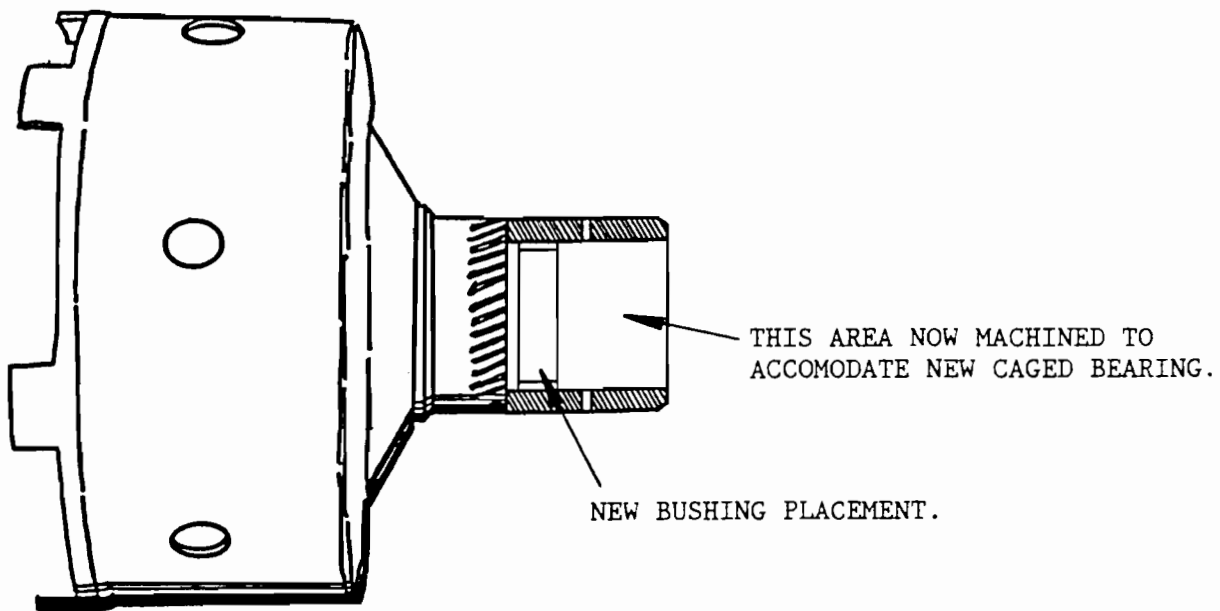

Figure 2
(2) SUN GEAR AND SHELL ASSEMBLY- Single bushing is now located in front of the lube holes in the sun gear, and the area behind it is now machined to accomodate the new caged needle bearing, as shown in Figure 2.
Late 1991 ONLY: Eliminated No. 12 checkball. This pump spacer plate will have ONE hole over the bath tub at the No. 12 checkball location, as shown in Figure 2.
Another difference in the pump plates is hole marked "A", as shown in Figure 1 and Figure 2. This is the converter clutch solenoid feed hole.